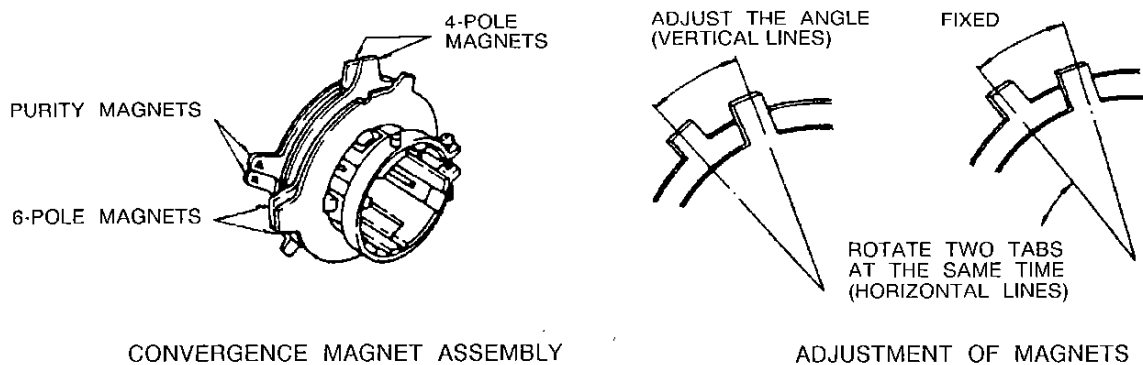
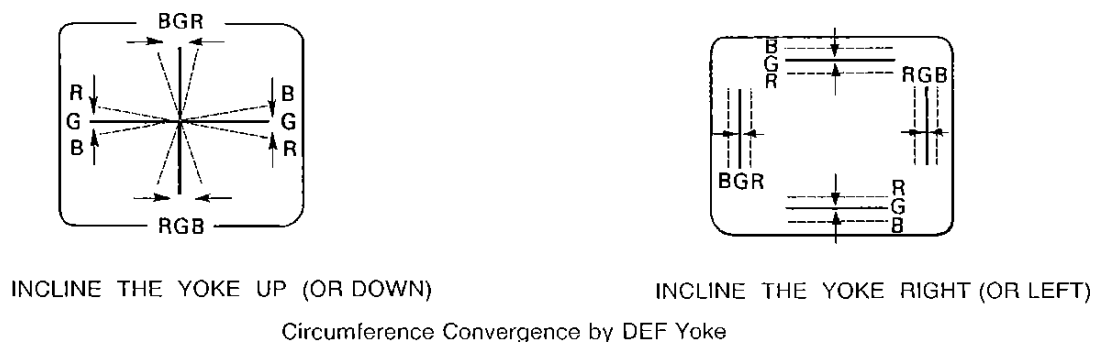

Figure 5.
Figure 6. Dot Movement Pattern
6. Rotate and spread the tabs of the purity magnet (See figure 5) around the neck of the picture tube until a green belt is obtained in the centre of the screen. And at the same time, centre the raster vertically by adjusting the magnet.
3. Adjust two tabs of the 4-Pole Magnets to change the angle between them (See figure 5.) and superimpose red and blue vertical lines in the centre area of the picture screen. (See figure 6.)
4. Turn the both tabs at the same time keeping the constant angle to superimpose red and blue horizontal lines at the centre of the screen. (See figure 6.)
3. Tilt front of the deflection yoke up or down to obtain better convergence in circumference. (See figure 6.) Push the mounted wedge into the space between picture tube and yoke to fix the yoke temporarily.
5. Tilt front of the yoke right or left to obtain better convergence in circumference. (See figure 6.)